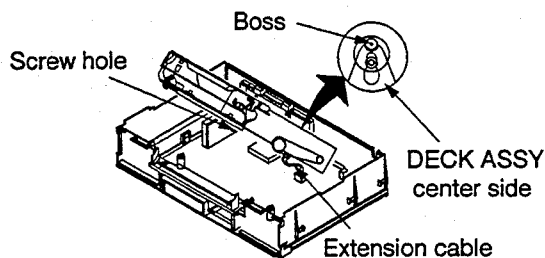

Fig. 1
2. Place the DECK ASSY on the Base Chassis so that the center of the rear side aligns with the boss and that the rear side of the supply side aligns with the screw hole as shown in Fig. 1. Raise the front side of the DECK ASSY and support it.